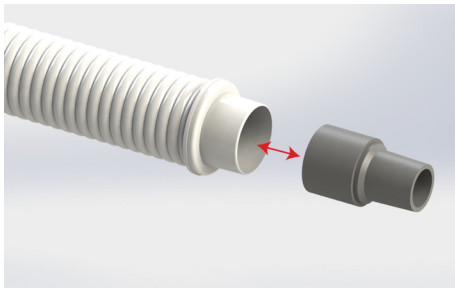

Fig. 3
- B. Insert the larger diameter end of the 1.25" hose end adapter into one ends of the 2.5" hose (Fig. 3).